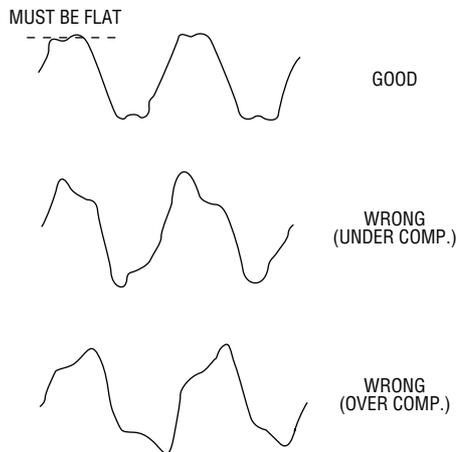

Figure 5-18
5. While recording the square wave, adjust the **RECORD PHASE HI SPD** trimmer for the best square wave response shown on the oscilloscope. (Refer to **Figure 5-18**).